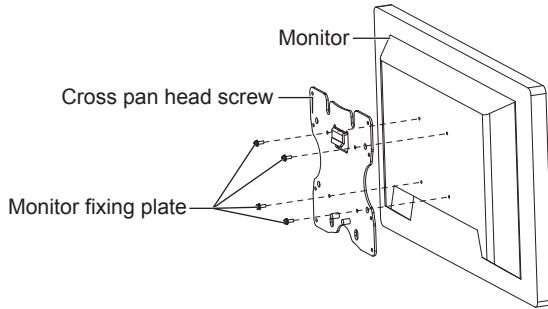

Figure 15 Installing Monitor Fixing Plate
- a. Use four M4 × 20 cross pan head screws or four M4 × 25 cross pan head screws according to different monitors to fix the monitor fix plate onto the back of the monitor; as shown in Figure 15.